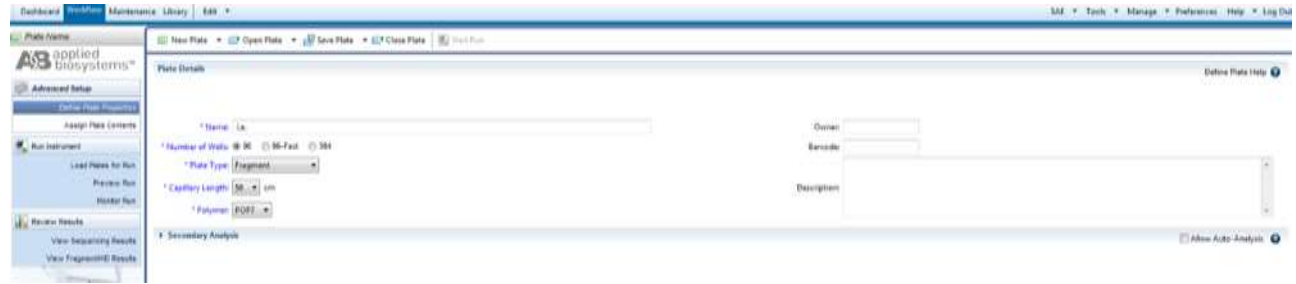

Figure 11. Screenshot for the “Defining plate properties” window on Applied Biosystems 3500 Data Collection software
- c) Select “Create” (Figure 11)